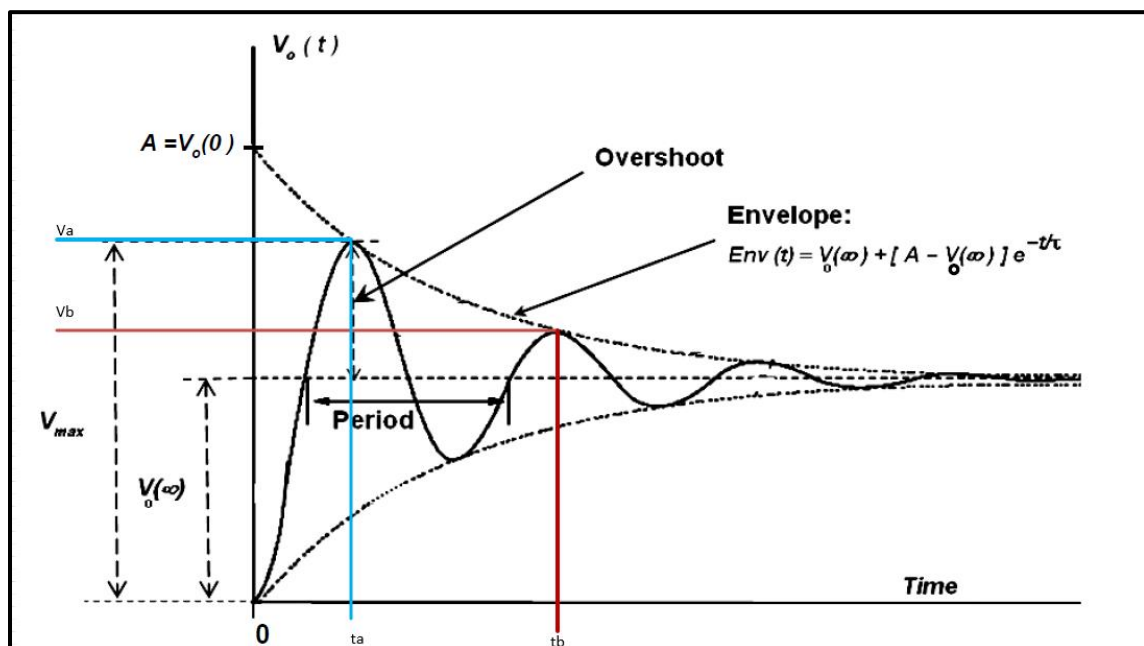

Figure 7.4: Example of calculating α and ω_d of underdamped response
3. For $R = 500 \Omega$, calculate the roots of the characteristic equation, **showing the value of α and ω_d** and write an expression for $V_C(t)$. Use PSPICE to do transient analysis of the circuit, show $V_C(t)$, and measure **α and ω_d using cursors as shown in figure 7.4.**
1. For $R = 4 \text{ k}\Omega$, calculate the roots of the characteristic equation **showing the value of α and ω_d** . Write an expression of $V_C(t)$. Use PSPICE to do transient analysis of the circuit, show $V_C(t)$, and measure **α and ω_d using cursors as shown in figure 7.4.**
2. Use cursors to find the values of V_a , t_a , V_b , t_b , and $V(\infty)$, as shown in figure 7.4, record results in Table 7.1.
2. Use cursors to find the values of V_a , t_a , V_b , t_b , and $V(\infty)$, as shown in figure 7.4, record results in Table 7.2.